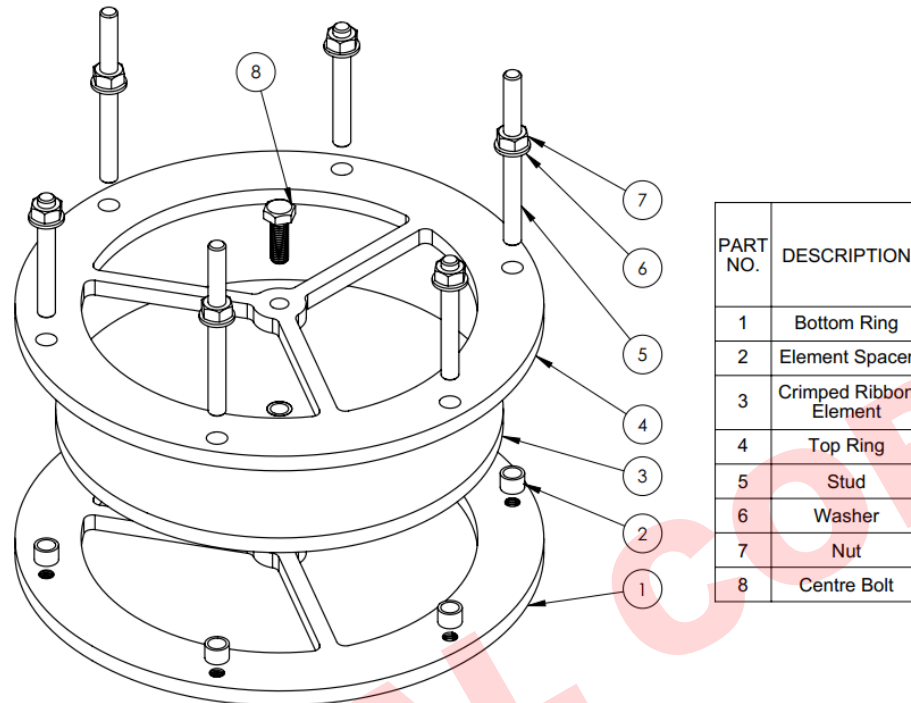

Figure 4 – Element Assembly Exploded View
Use figure 4 for guidance when replacing the Crimped Ribbon Element (3). Take care when handling the Crimped Ribbon Element (3) - it can be easily damaged. Always check the marking on the periphery of the crimped ribbon element (3) to ensure the replacement element is the correct size and for the correct explosion group. When reassembling the Flame Arrester, all element assembly bolting (5,6,7,8) is to be torqued as per the values given in the element assembly torque table (page 4).
1. Undo the element bolting (5,6,7,8) and separate the top and bottom element rings (4,1). Take care to ensure the Element Spacers (2) do not go missing.
2. Carefully remove and replace the crimped ribbon element (3). Ensure the contact surfaces of the top and bottom rings (4,1) are free from dirt and contaminants before reassembly.